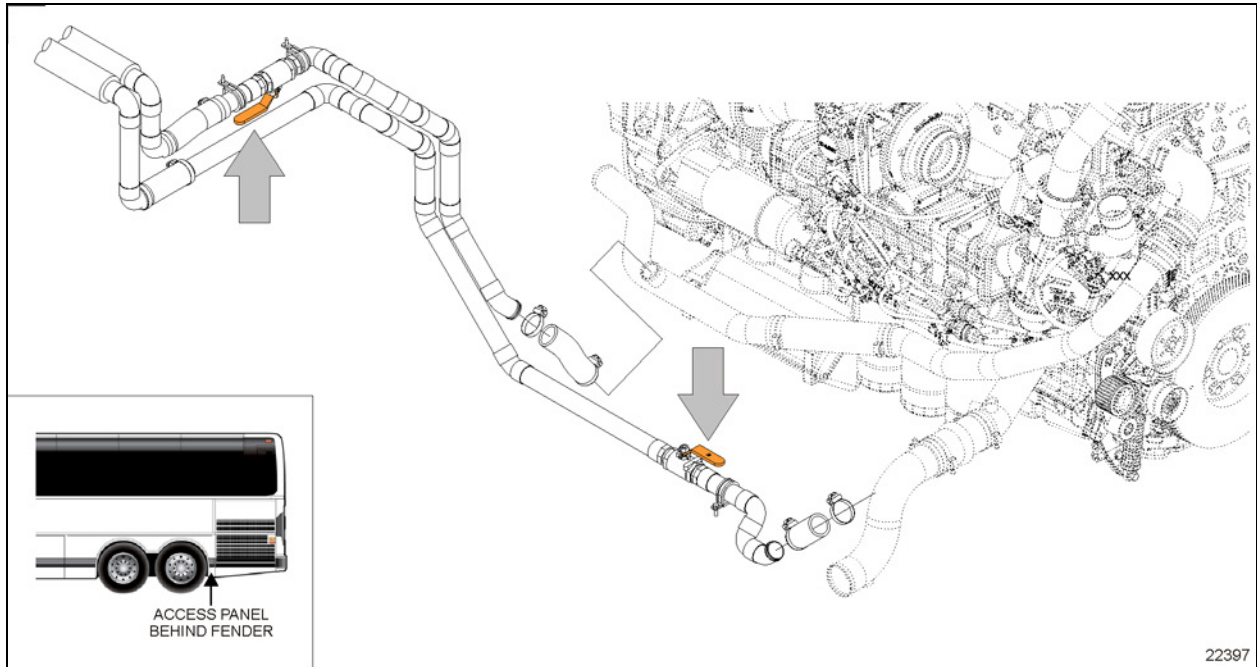
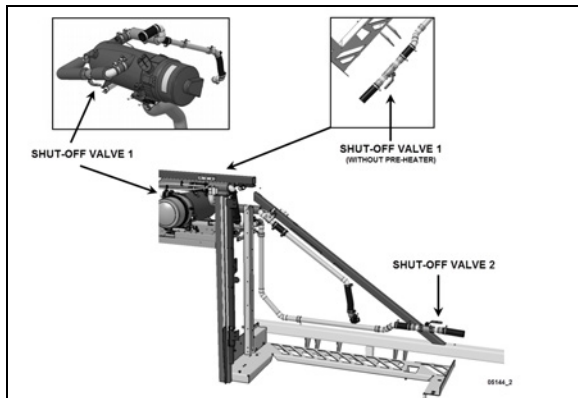

FIGURE 77 X SERIES HEATER LINE SHUT-OFF VALVES- (ALLISON TRANS. PIPING ARRANGEMENT SHOWN)
FIGURE 78: H3 SERIES HEATER LINE SHUTOFF VALVES 05144
3. Close the hot water lines shutoff valves located next the engine on street side (see Figure 77 or Figure 78).
2. Close both heater line shutoff valves (Figure 77 or Figure 78). One is located in the engine compartment, lower road side, near the radiator while the other one is located behind the L.H. hinged rear fender near the preheater.